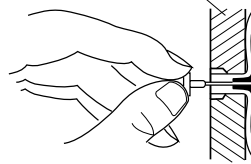

Figure 5 - Popping Open Anchor Wings For Thin Walls
4. For thin walls (1/2" or less), insert red key into wall anchor. Push red key to "pop" open anchor wings (see Figure 5). **IMPORTANT:** Do not hammer key! For thick walls (over 1/2" thick) or solid walls, do not pop open wings.